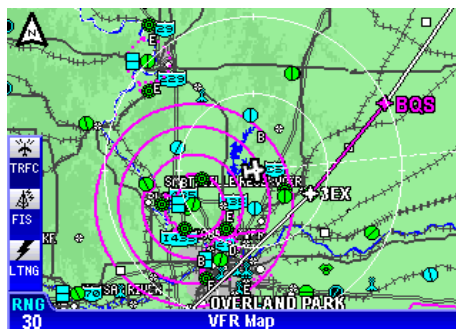

Figure 1-143
4. When the desired leg is displayed, press the **ACTIVATE** Softkey and the Map will again be displayed as in Figure 1-143. Note the airplane is navigating to intercept the selected flight plan leg.